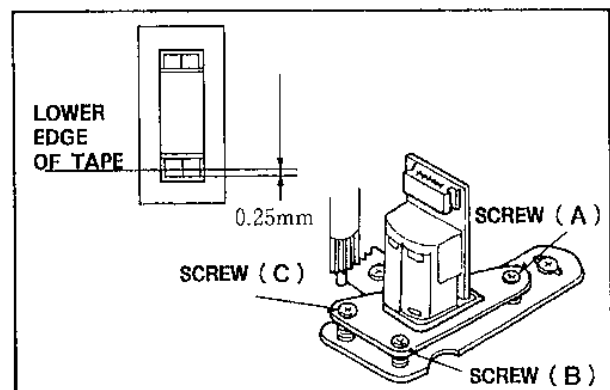

Fig.M20
2. Rotate the screw (A) as shown in Fig.M20 until the wrinkle appears on the lower edge of tape at P4 Post.
3. Rotate the screw (B) until the wrinkle just disappear on the lower edge of tape at P4 Post.